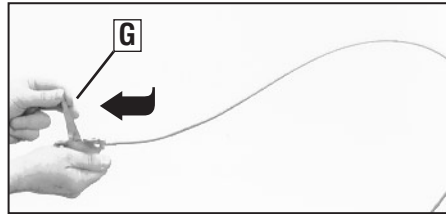

Figure 2-5: Carefully unwrap Wheel Gear Lever and move lever to DISENGAGE.
9. To remove the tiller from its shipping platform, first carefully unwrap the wheel gear cable (with attached lever - see Figure 2-5) from around the chassis. Move the Wheel Gear Lever (G) to the DISENGAGE position--this allows the wheels to rotate freely. Use the handle-